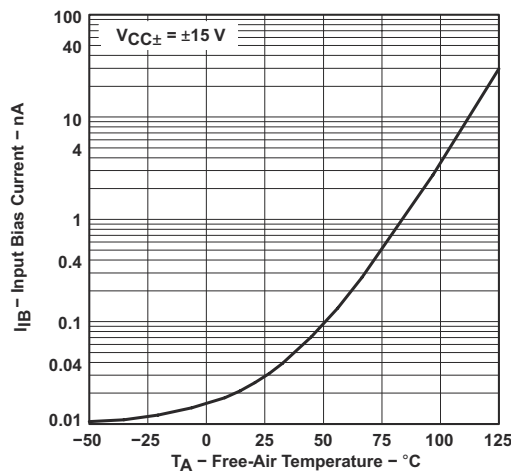

图 6-12. Input Bias Current vs Free-Air Temperature
- (1) All characteristics are measured under open-loop conditions with zero common-mode input voltage unless otherwise specified. Full range for T_A is 0°C to 70°C for TL06xC, TL06xAC, and TL06xBC and -40°C to 85°C for TL06xL.
- (2) Input bias currents of an FET-input operational amplifier are normal junction reverse currents, which are temperature sensitive, as shown in Figure 6-12. Pulse techniques are used to maintain the junction temperature as close to the ambient temperature as possible.
- (3) Specified by design and characterization; not production tested.
- (1) All characteristics are measured under open-loop conditions with zero common-mode input voltage, unless otherwise specified. Full range for T_A is 0°C to 70°C for TL06xC, TL06xAC, and TL06xBC and -40°C to 85°C for TL06xI.
- (3) Assured by design and characterization; not production tested.
(1) This parameter is not production tested.
(2) All characteristics are measured under open-loop conditions, with zero common-mode voltage, unless otherwise specified.
(3) Input bias currents of an FET-input operational amplifier are normal junction reverse currents, which are temperature sensitive, as shown in Fig 6-12. Pulse techniques are used to maintain the junction temperature as close to the ambient temperature as possible.
(4) Specified by design and characterization; not production tested.